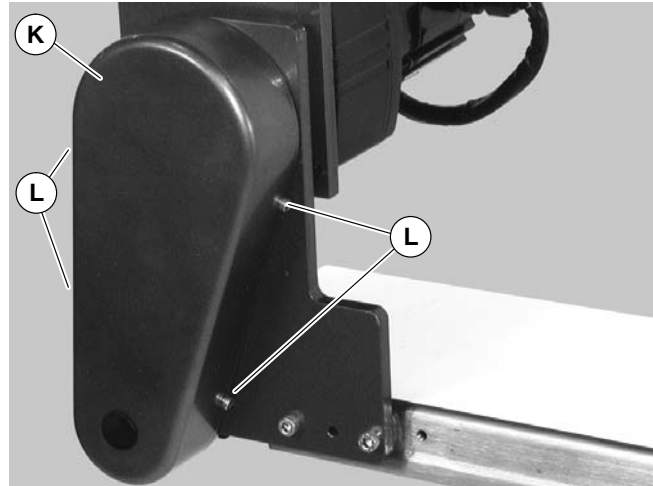

Figure 13
9. Install cover (K of Figure 13) with four screws (L). Tighten to 35 in-lb (4 N-m).
1. Remove four screws (L of Figure 13) and remove cover (K).
4. Install cover (K of Figure 13) with four screws (L). Tighten to 35 in-lb (4 N-m).
6. Install cover (K of Figure 13) with four screws (L). Tighten to 35 in-lb (4 N-m).
4. Remove four screws (L of Figure 13) and remove cover (K).